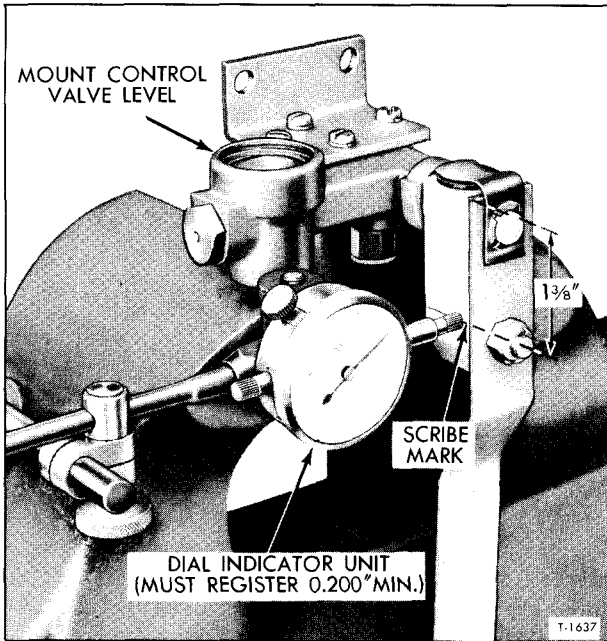
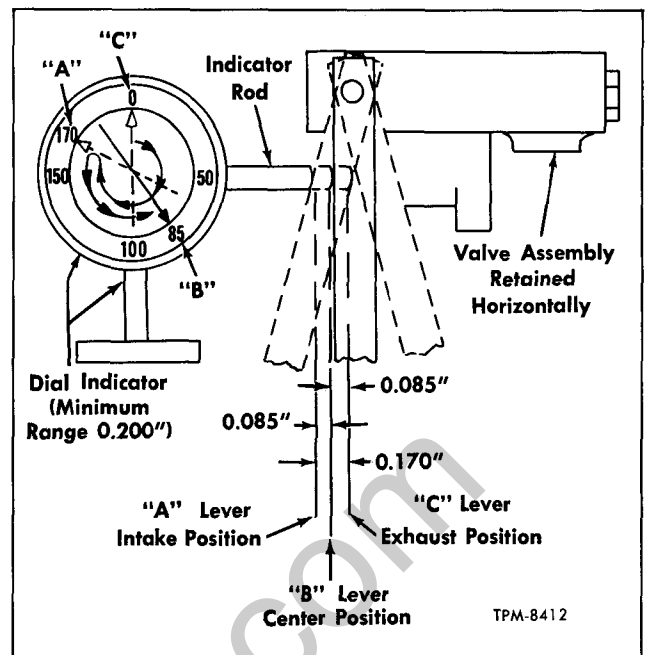

Figure 9—Dial Indicator Properly Installed
Figure 10—Locating Valve Overtravel Lever Center Position
4. Referring to figure 9, scribe a line 1-3/8-inch from plug end of overtravel lever control body.
5. Place valve assembly in vise as shown in figure 9.
8. Locate dial indicator in position as shown in figure 9. Move overtravel lever to full air exhaust position - **TOP OF DELAY PISTON FLUSH WITH TOP OF BORE** - without overtraveling (position "C," fig. 10). Relocate indicator push rod to just contact 1-3/8-inch mark on control body and reset indicator dial to zero (0) at this point (position "C," fig. 10).
9. Move overtravel lever to full air intake position without overtraveling (position "A," fig. 10) (delay piston at bottom of bore). Take indicator reading which may vary from 0.160" to 0.190".
11. Divide the total travel dimension by two (example: 0.170" - 2 = 0.085"), then move overtravel lever back this amount (0.085") to the center (position "B," fig. 10).
- IMPORTANT:** Without disturbing lever center position, reset indicator dial to zero (0), which actually is 0.100" on indicator of type registering